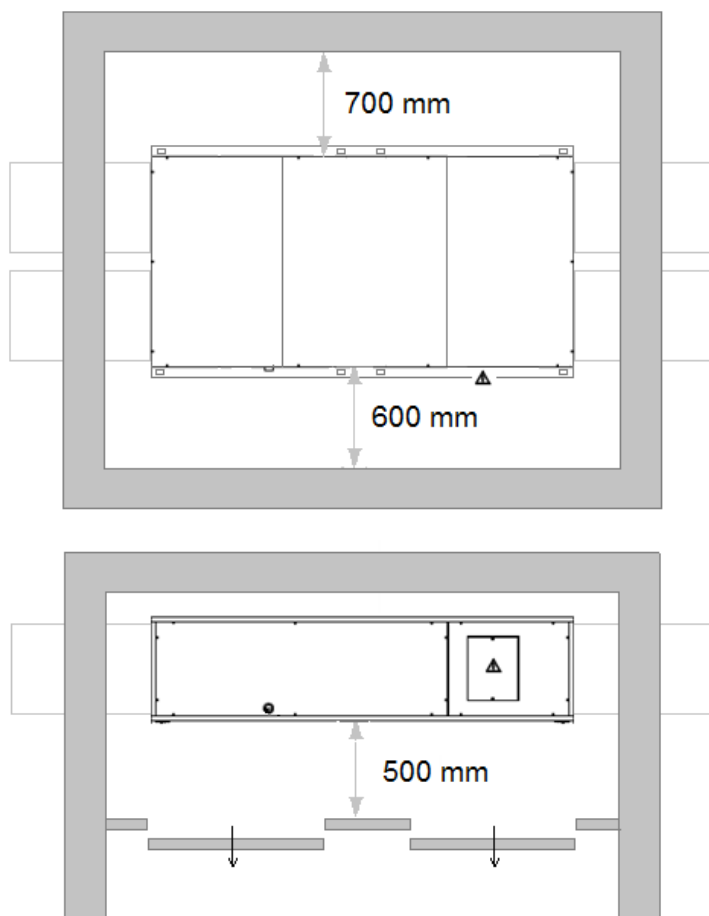

Fig. 6
- Leave minimum gap spaces as shown on following **fig. 6 and 7**. They are needed for fully accessibility to the unit in order to carry out all services in safety condition.